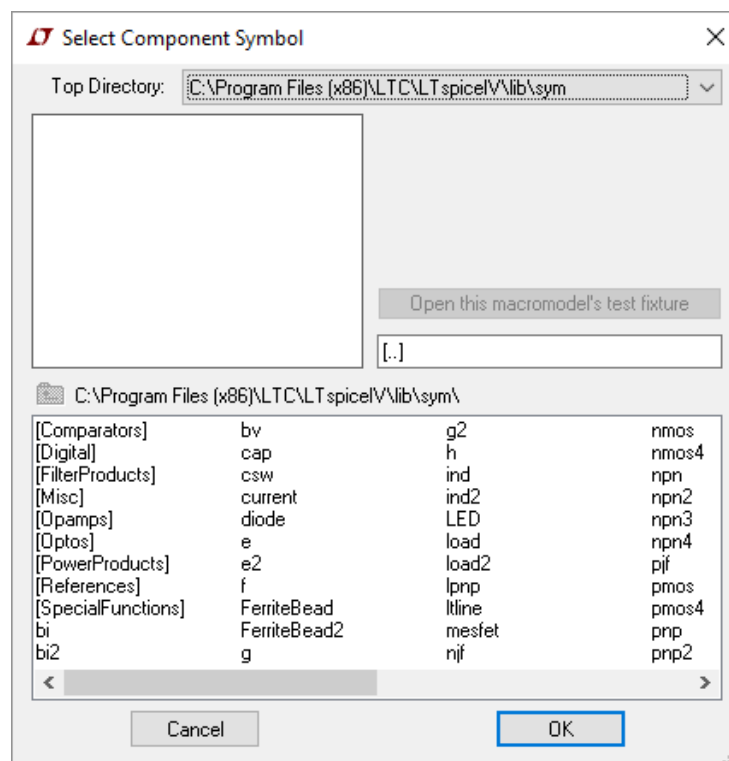

Fig. 4. Select Component Symbol window, top level directory.
- Right click on the schematic and select Draft > Component. The Select Component Symbol window will appear as shown in Fig. 4. This directory level has all the standard LTspice elements. Select res followed by OK. A resistor will attach to the cursor.